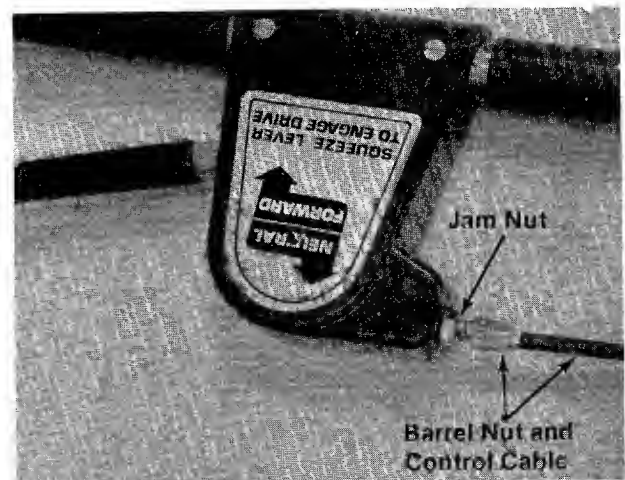

FIGURE 20
The blade can be tested for balance by balancing it on a screwdriver. Remove metal from the heavy side until it balances evenly. (See figure 20.)
1. To increase belt tension, loosen jam nut and backoff two or three threads. (See figure 20.)